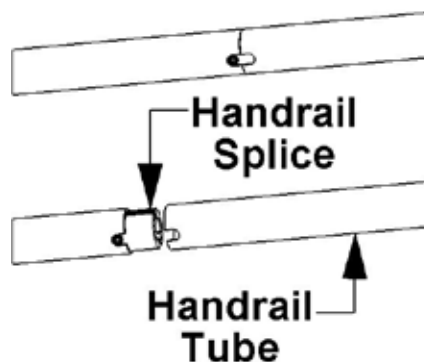
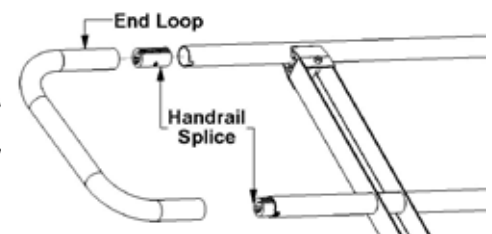

Fig.4.9
Fig.4.10
Before attaching the single post handrail assemblies, nest a handrail splice into the top double post handrail tube as illustrated in Fig.4.9 on page 19. Line top tube of the single post handrail over the splice and then continue attaching single post handrail assemblies the same way as the double post handrail assemblies. Repeat this process at each ramp post location. After all posts have been attached, slide the bottom handrail tubes until they are even with the top tubes and splice together (Fig.4.9, pg.19). After all handrails have been attached to the ramp, go back through and tighten the set screw in all of the splices.
**4.3 Handrail Splice Installation:** The handrail splice will be used at each handrail tube transition to connect the handrail tubes together giving the handrail the look and feel of one continuous tube. With the handrail splice in place, nest the set screw inside the notch in the bottom of the tube, pull handrail tubes together. Using an allen wrench, tighten the set screw in the handrail splice (**Fig.4.9**). To attach any of the various end loops slide a handrail splice in each tube at the end of the ramp and slip the end loop over the handrail splice, making sure there is no gap between the handrail tube and the end loop (**Fig.4.10**). Tighten down set screw.